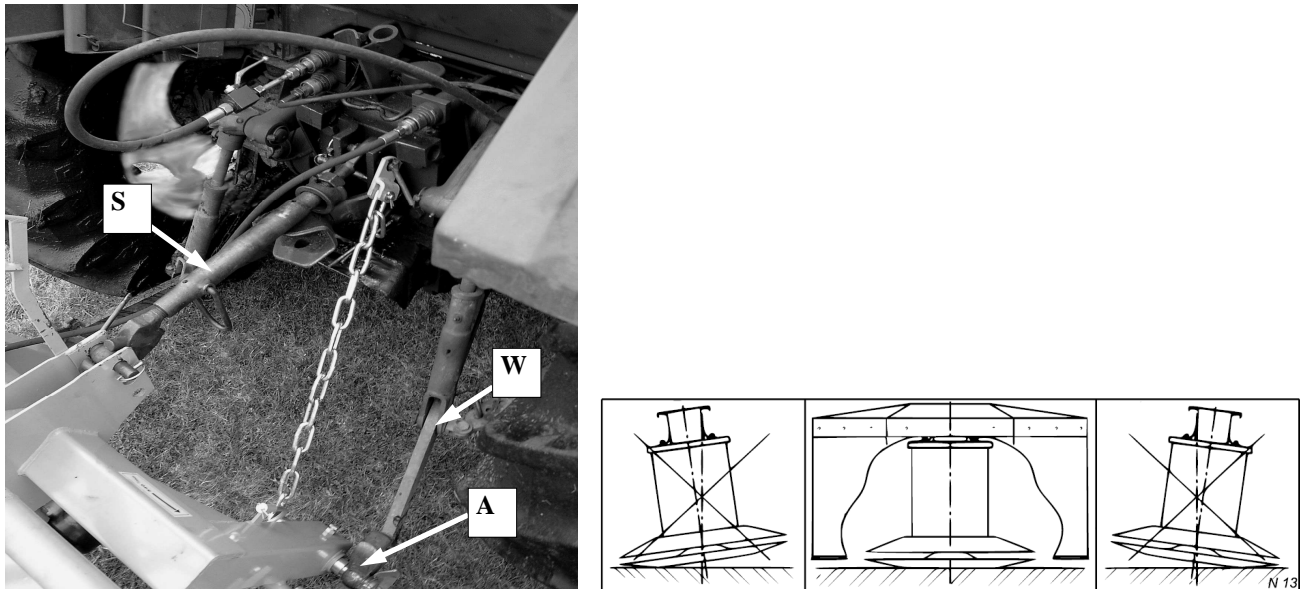

Fig. 12. Attaching the mower to the tractor
Once the mower is suspended adjust the setting on an even ground with adjustment screw **S** (**Fig. 12**) and hangers **W** of the tractor's lower links. The mower's drums should be parallel to the ground (hence this is a condition for a sustained stubble). Hangers **W** of the tractor's lower links should be placed on pins **A** of the mower's 3-point linkage frame.
- ❑ adjust the mower with top link S (Fig. 12), if needed,